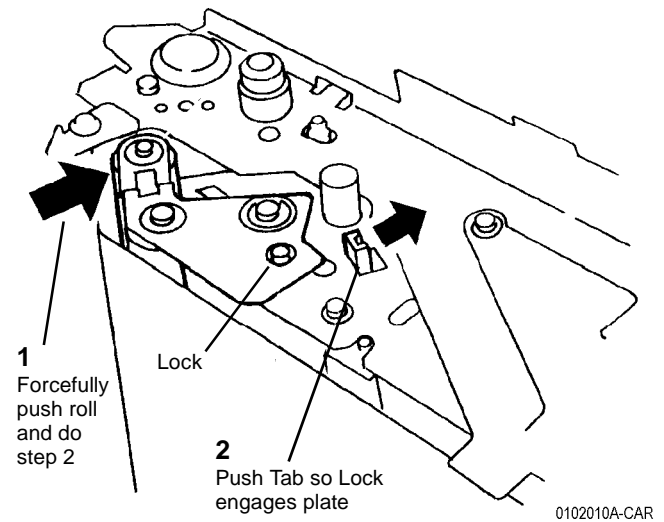

Figure 6 Relaxing Belt Tension
9. Relax tension of Belt on both sides (Figure 6).